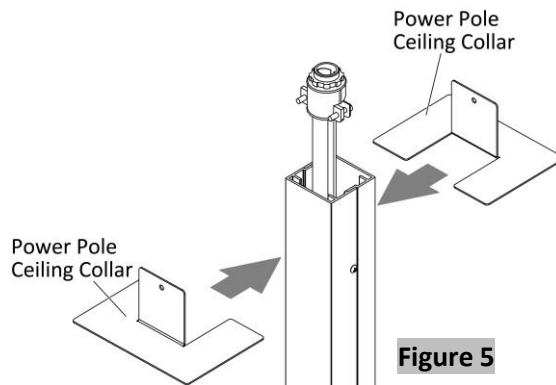

Figure 5
- 7. Slip the power pole ceiling collars and securely fasten them with #8 X 3/8" Pan Type B, (Figures 5 & 6).